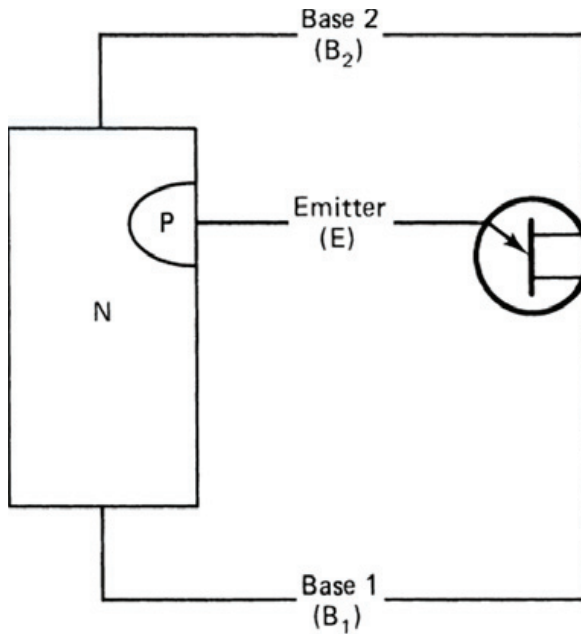

Figure 12.21 Unijunction transistor crystal structure and schematic symbol.
Figure 12.21 shows the crystal structure and schematic symbol of a **unijunction transistor**. A small bar of N-type silicon is mounted on a ceramic base. Leads attached to the silicon base are called **base 1** (B_1) and **base 2** (B_2). The **emitter** (E) is formed by fusing an aluminum wire to the opposite side of the silicon bar. The emitter is oriented so that it is closer to B_2 than to B_1 . The emitter and the silicon bar form a P–N junction. The arrow of the UJT symbol points i_N , which indicates that the emitter is a P-type material and the silicon bar is an N-type material. The arrow of the symbol is slanted to distinguish the UJT from the N-channel JFET symbol.